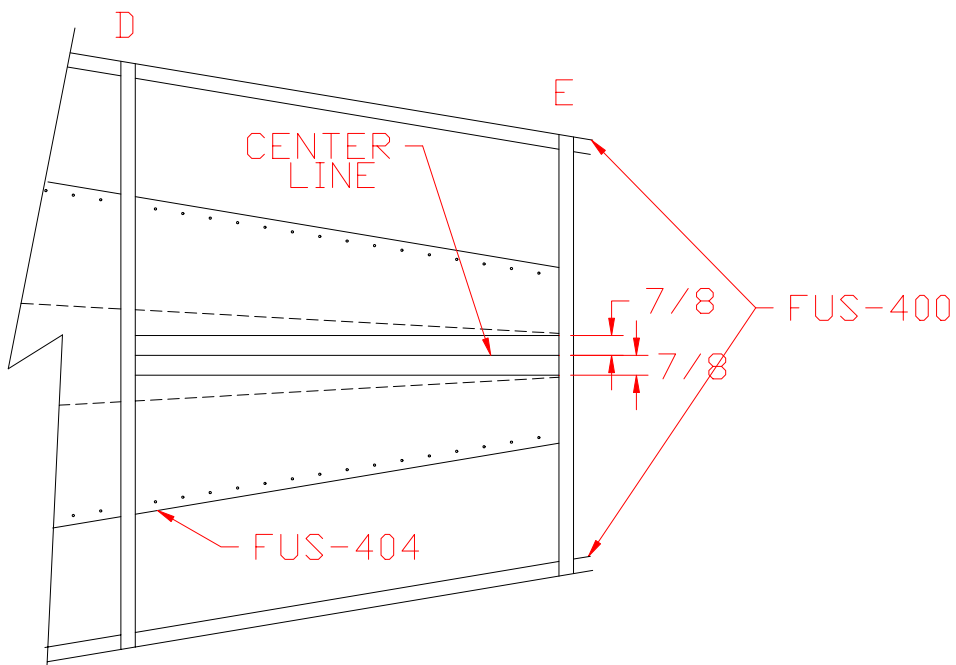

Figure 9.4.2
3) Draw a line from the center of bulkhead position D to bulkhead position E. Draw a line on either side of the center line as in figure 9.4.2.